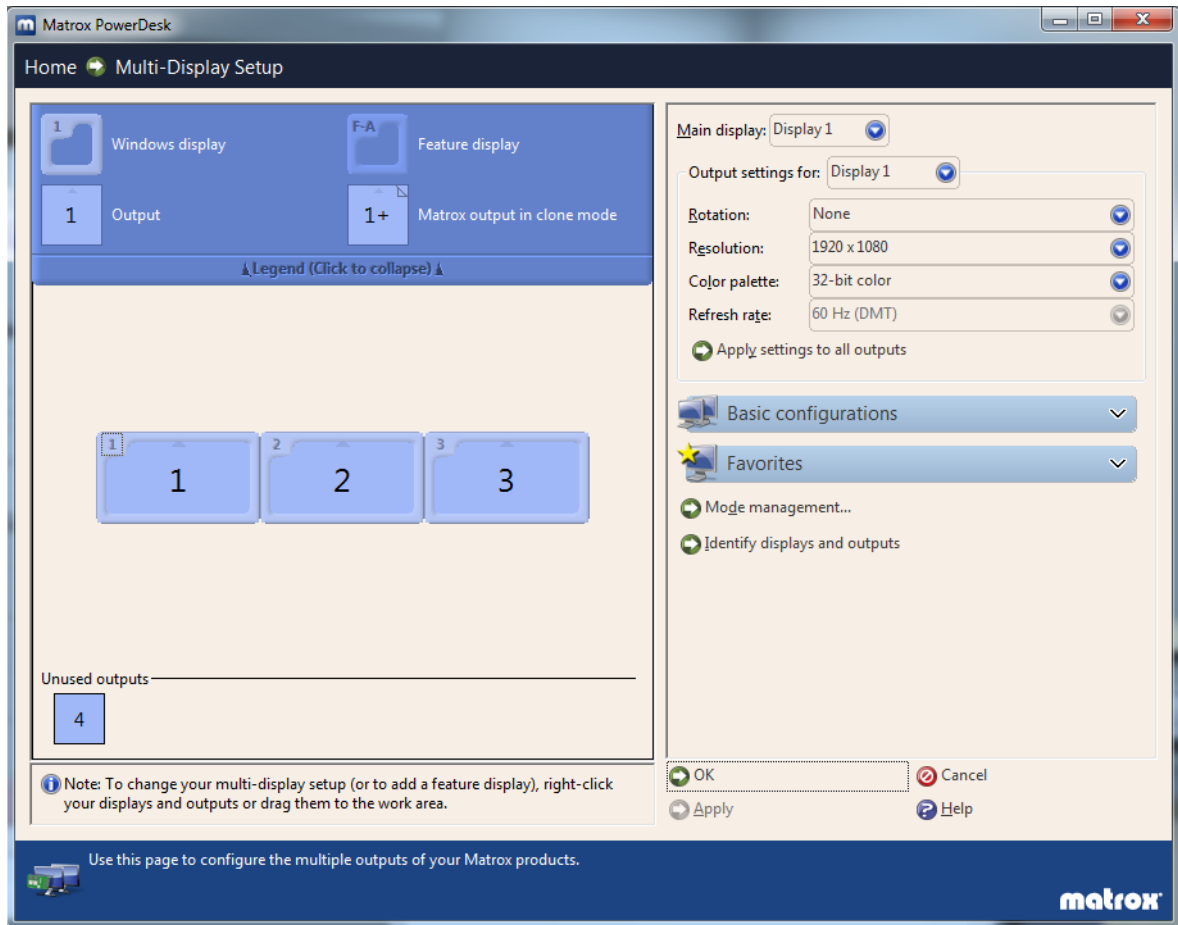

Figure 75. Matrox Power Desk - Configure Monitors
3. Configure all monitors with values as shown in the Figure 75.